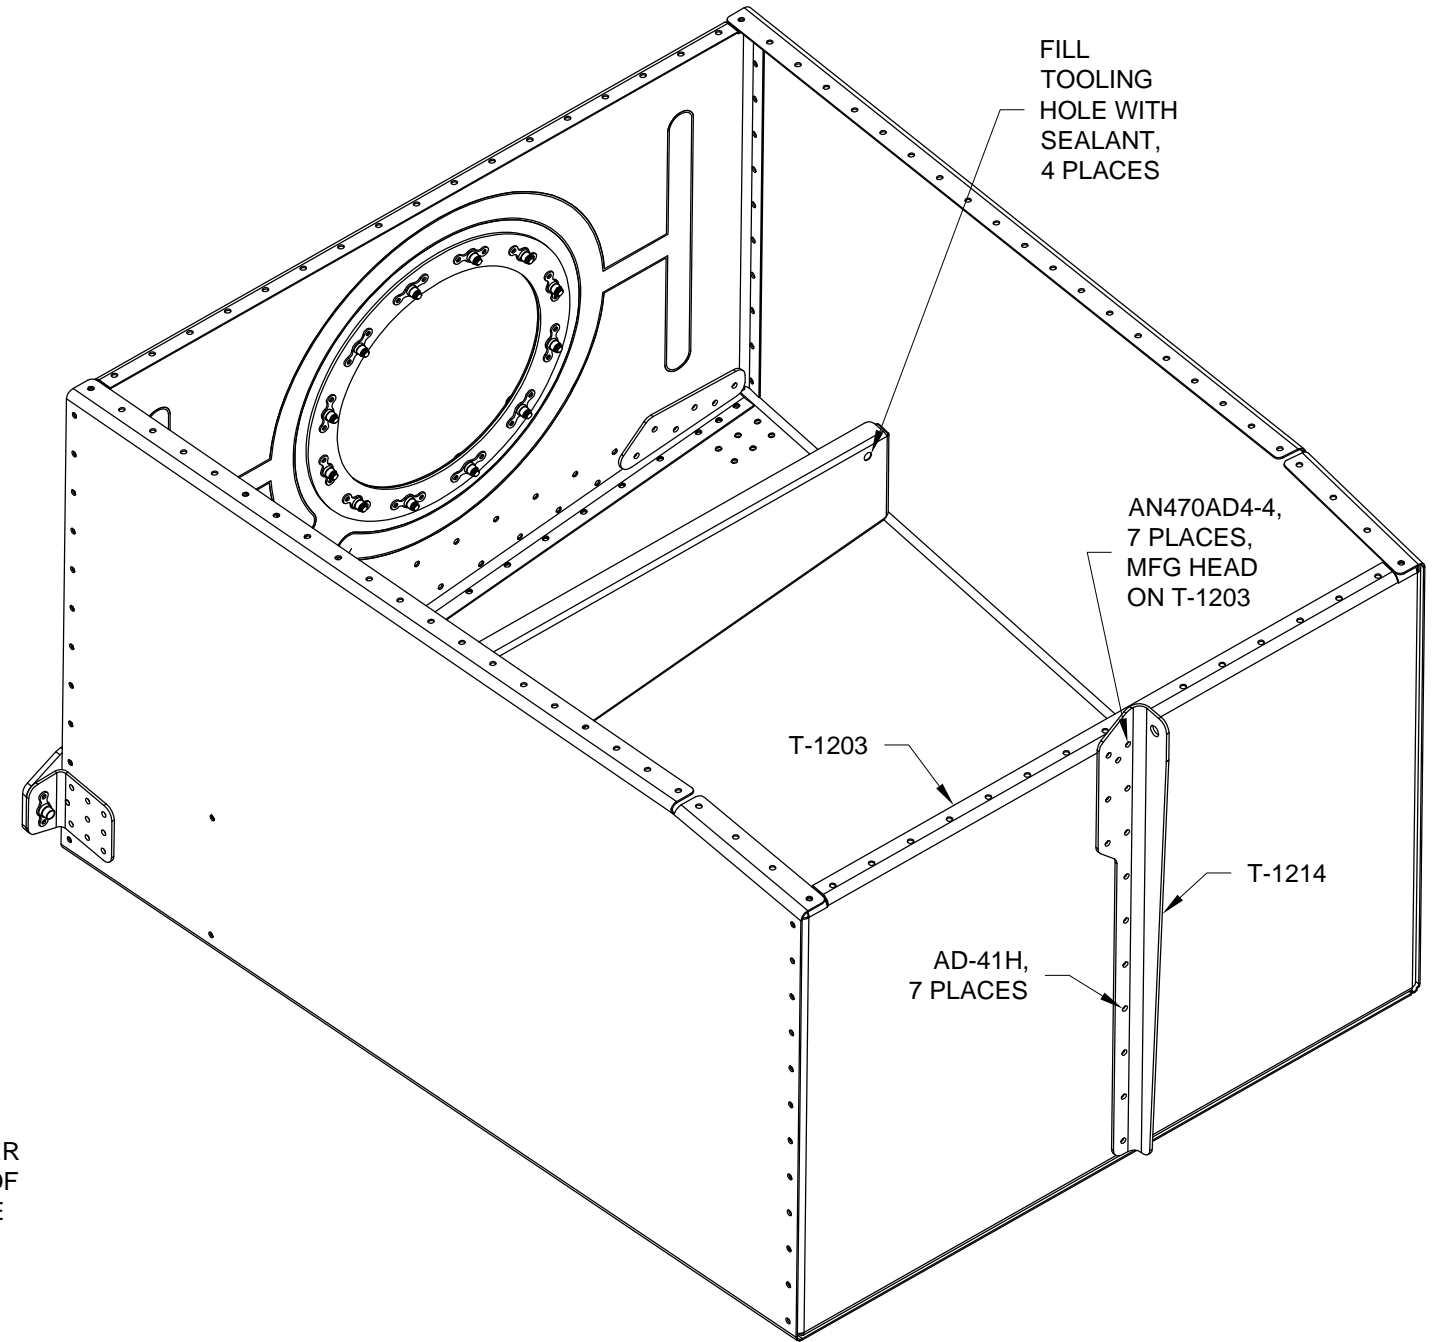

FIGURE 2: INSTALLING THE ATTACH ANGLE
Step 6: Rivet the T-1214 Attach Angle to the T-1203 Aft Tank Bulkhead per the call-outs in Figure 2.